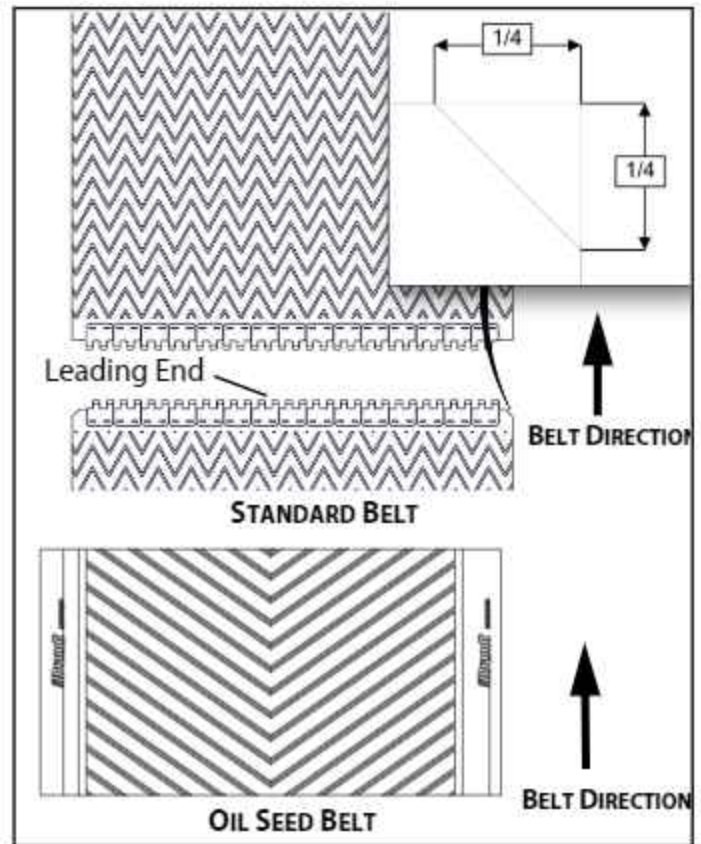

FIG. 3-34. Notching the Belt's Leading End
1. Unroll a few feet of belt and trim the corners of the leading end as shown in Fig. 3-34. Make sure to trim only the end shown. Fig. 3-34 shows the direction of travel of the belt